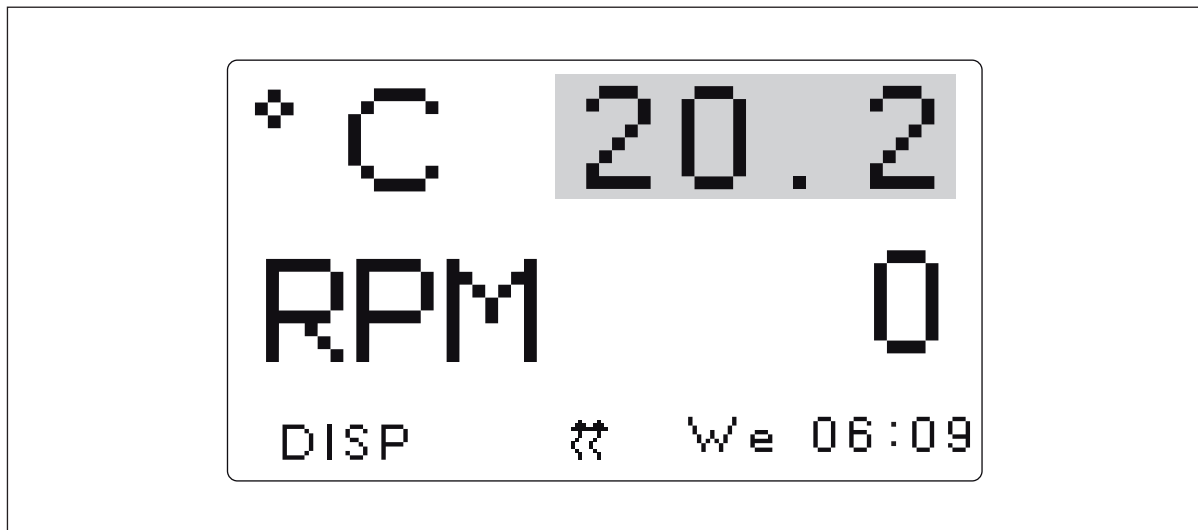

Fig. 5-4: Changing Setpoint
2. Click the Control Knob in to display the current setpoint (in this example, **20.2**) (see Fig. 5-4 on p. 44), which will flash.